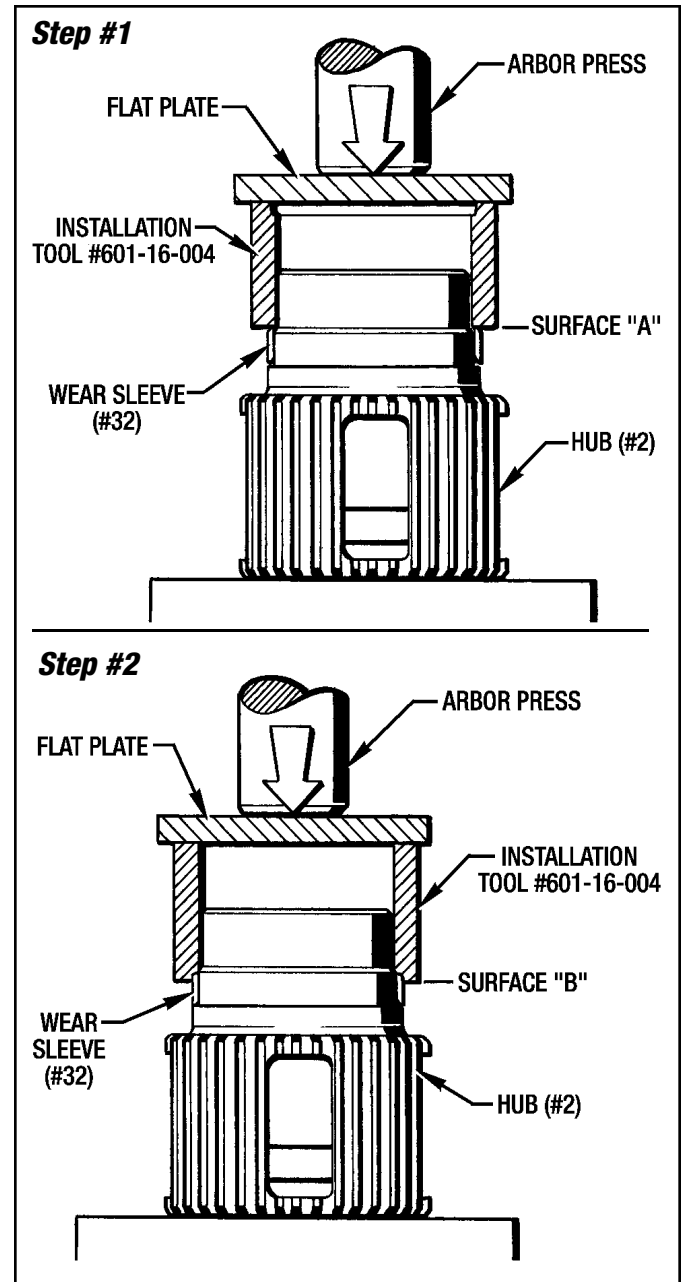

Figure 7.12 - Installing Wear Sleeve (#32) on Sizes MSB9 and MSB10
2. Place the Hub (#2) into an Arbor Press and with **Surface "A"** of the Installation Tool press the Wear Sleeve (#32) on as far as it will go. (See Step #1 in Figure 7.12)